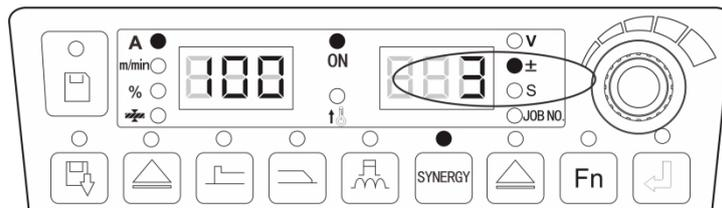

Fig. 3-4 Interface of corrected synergic matching voltage value
3. When the indicator is on or blinking, you can make a fine adjustment of the automatically matched voltage in the synergic mode by adjusting the voltage knob on the wire-feeder or the panel knob on the welding power source, as shown in Fig. 3-4.